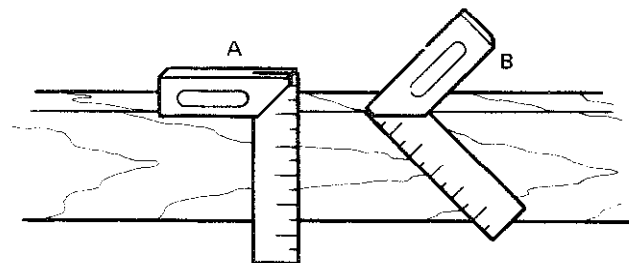

Fig. 4-28 Two applications of the try and miter square
1. To square a mark across the face of a board, use the square as shown in A, figure 4-28.
2. To lay out a 45-degree line, place the 45-degree shoulder against the working edge as shown in B, figure 4-28. Then draw the necessary line along the edge of the blade.